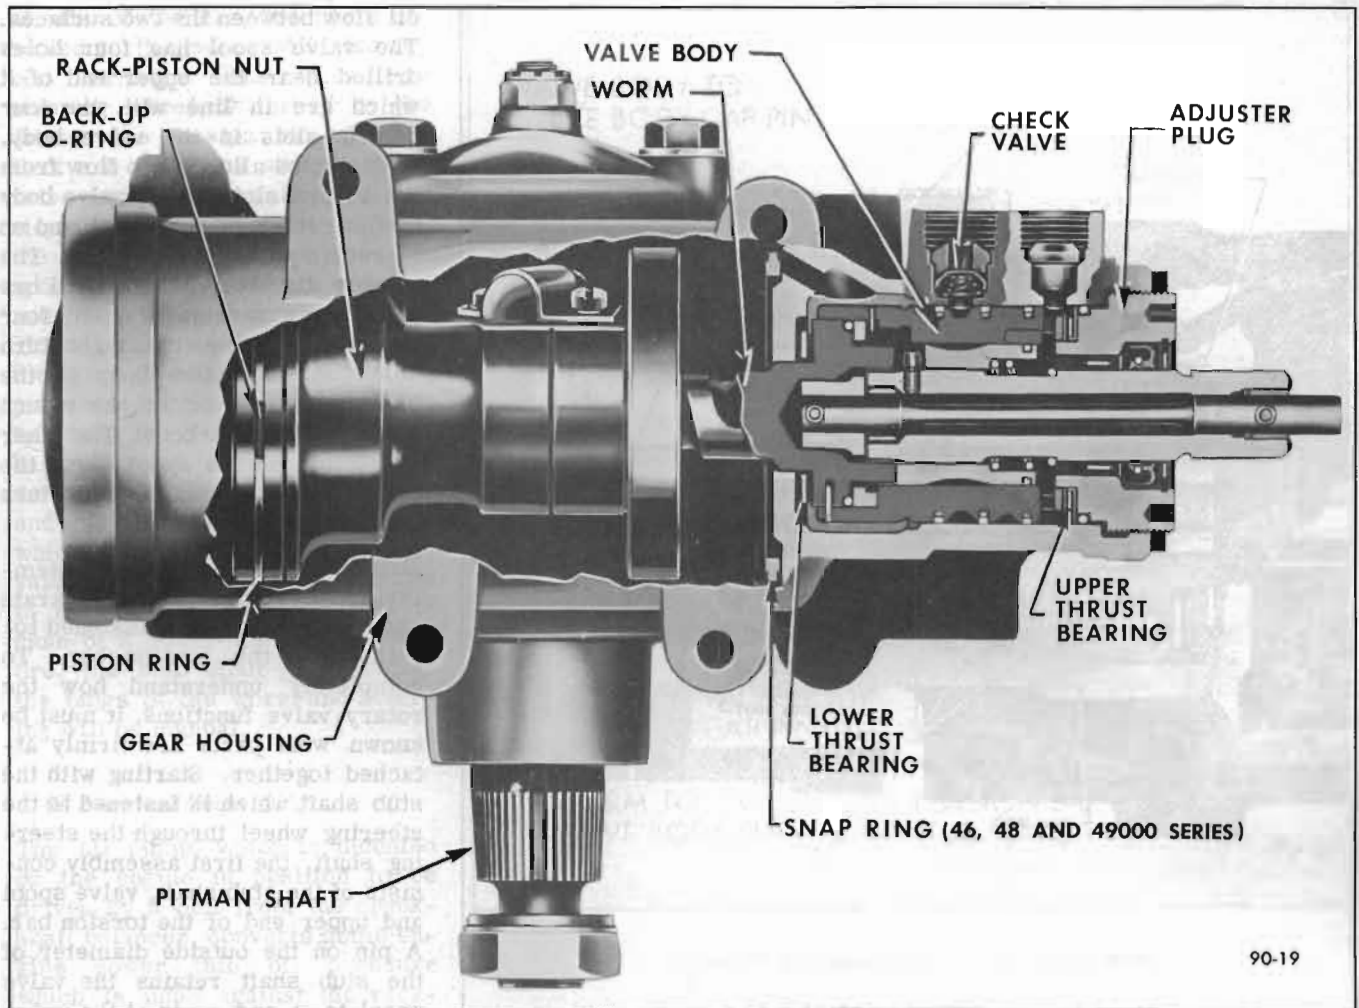

Figure 90-16—Power Steering Gear
1. Wildcat, Electra and Riviera gears have a snap ring located at the upper end of the housing which serves as a stop for the rack piston assembly. See Figure 90-16.